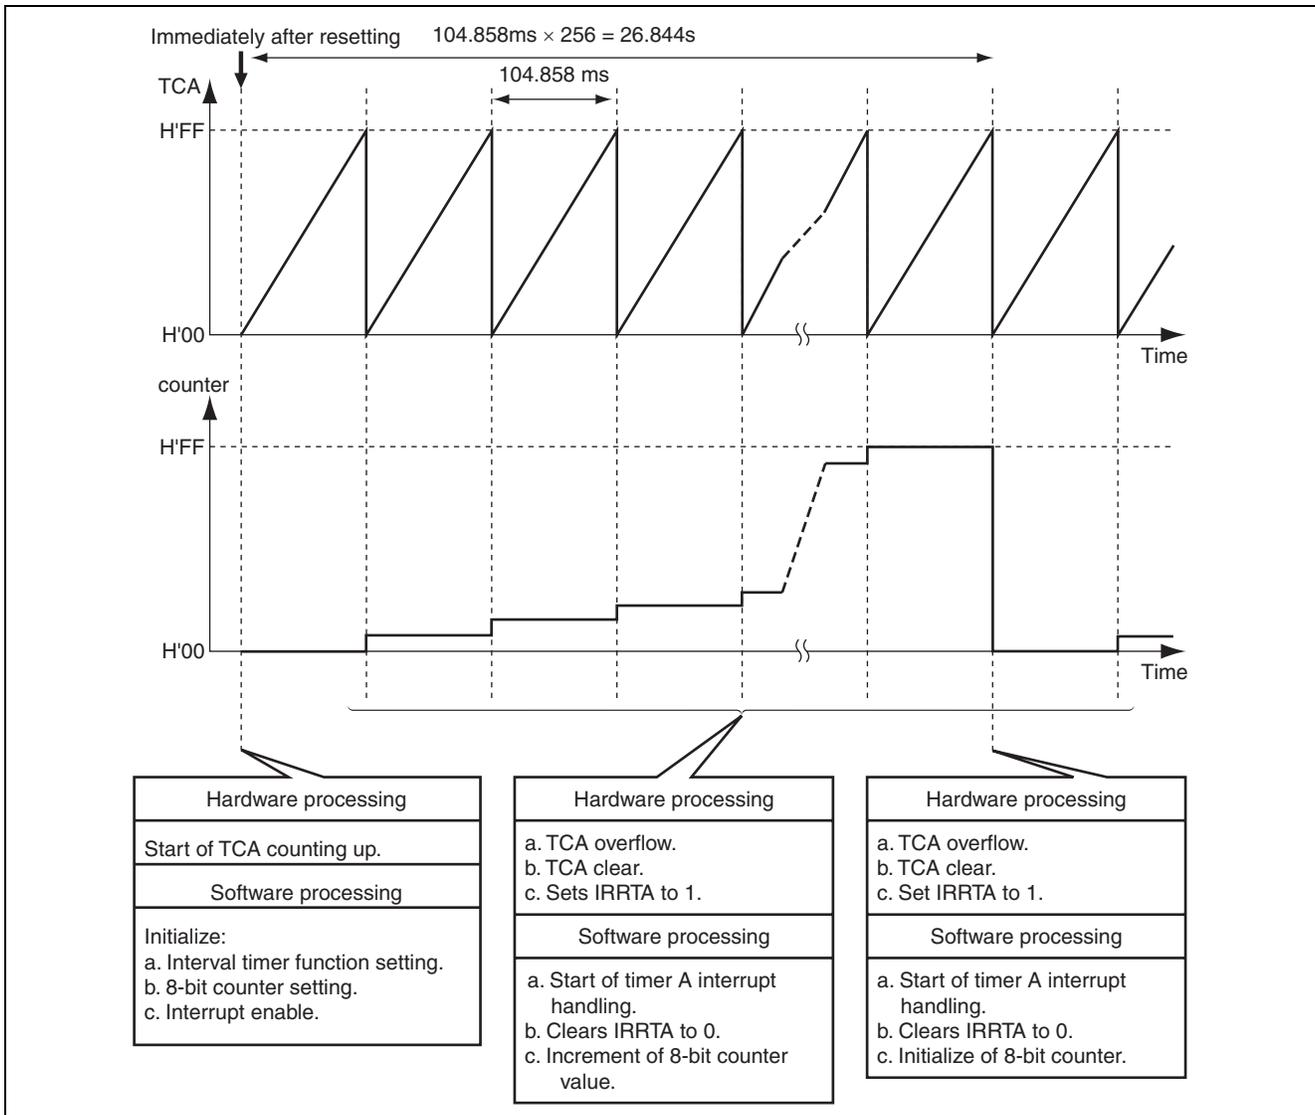

Figure 3.1 Operation Principle of Counting up the 8-bit Counter by the Timer A Interval Function
1. Figure 3.1 illustrates the principle of operation of this sample task. As shown in figure 3.1, the 8-bit counter is counted up by the Timer A interval function by means of hardware processing and software processing.